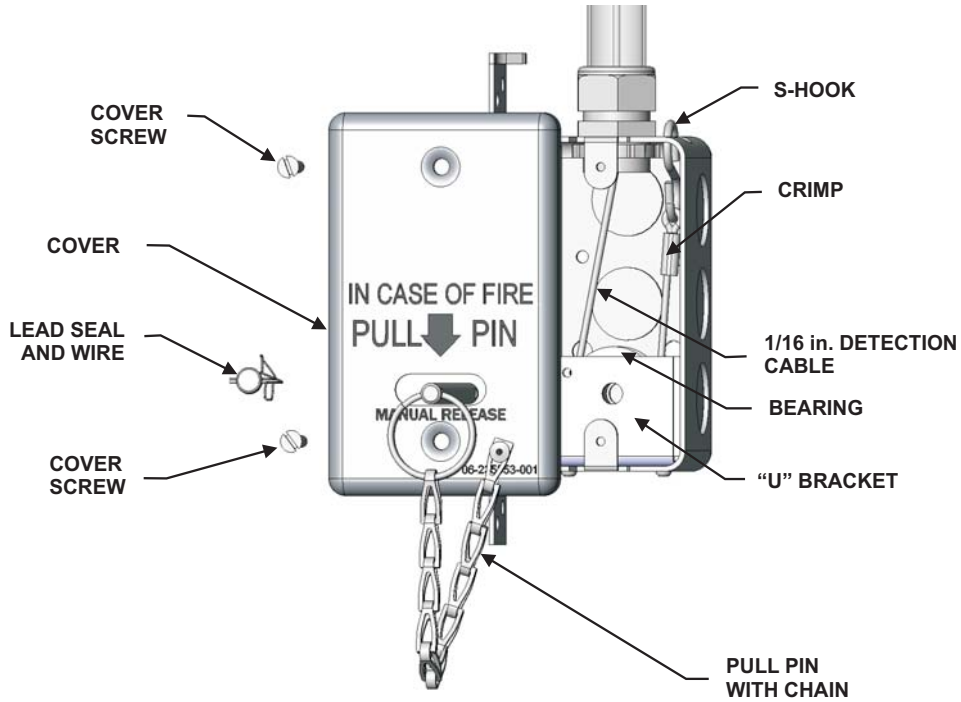
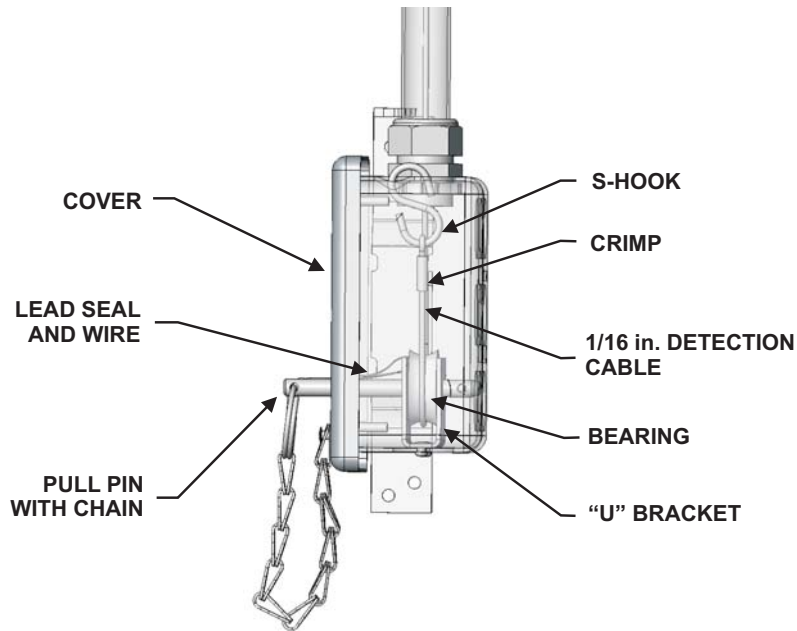

Figure 4-60. Recess Mounted End-of-Line Remote Manual Control, P/N 9197461
Figure 4-61. Recess Mounted End-of-Line Remote Manual Control (Side View), P/N 9197461
14. Attach the S-hook up and through the 3/32-inch (2.5 mm) diameter hole on the upper right side of the control box as shown in Figure 4-60 and Figure 4-61.